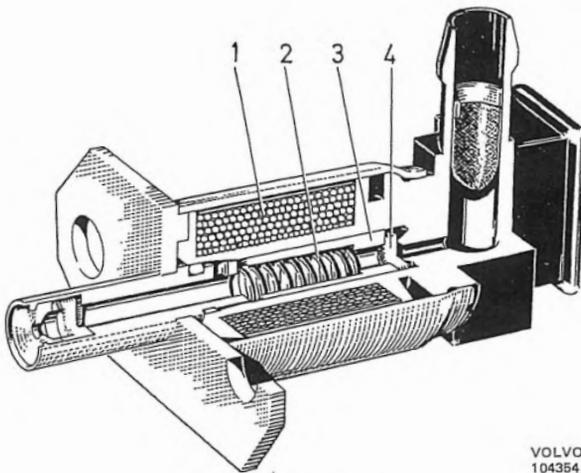

Fig. 2-70. Cold start valve
When the magnetic winding (1, Fig. 2-70) is not in circuit, the packing (4) presses against the inlet of the armature (3), which in its turn is actuated by the return spring (2). This keeps the cold start valve closed. When the magnetic winding is fed from the thermal timer, the armature is drawn down and fuel is forced past the packing, through the cold start valve and into the inlet duct.